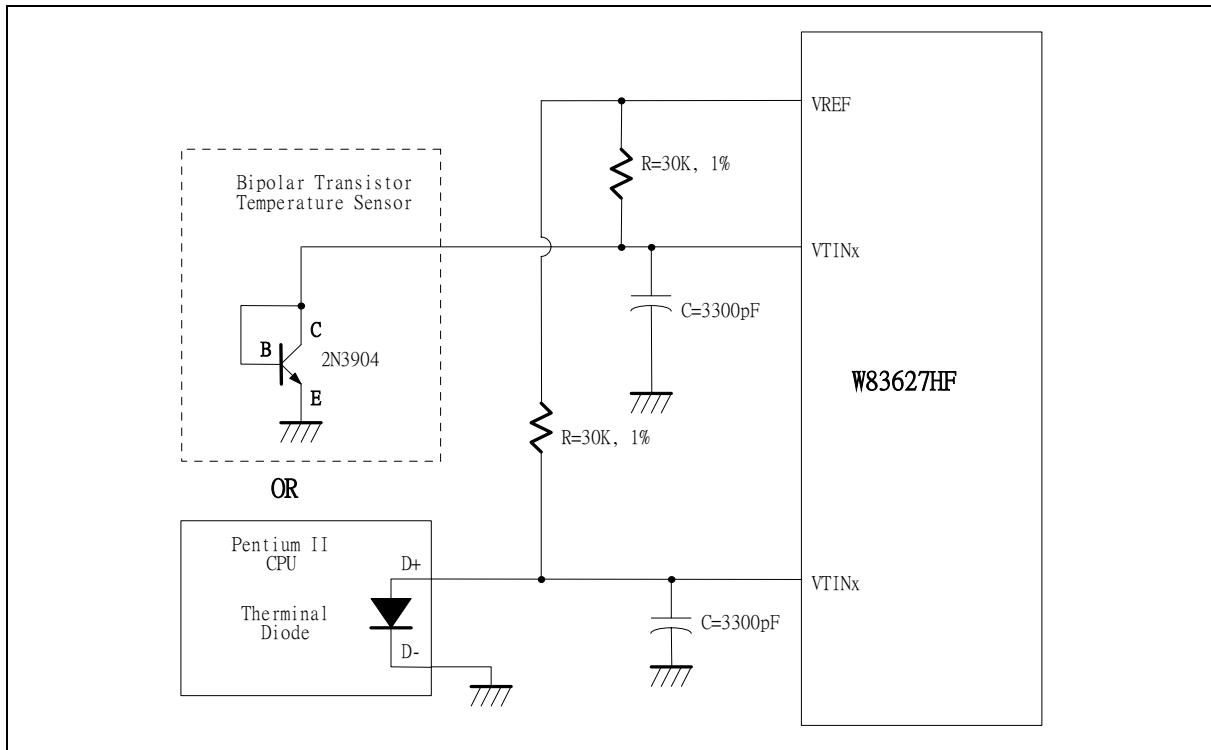

Figure. 8.3
The W83627HF can alternate the thermistor to Pentium II™ (Deschutes) thermal diode interface or transistor 2N3904 and the circuit connection is shown as Figure 8.3. The pin of Pentium II™ D- is connected to power supply ground (GND) and the pin D+ is connected to pin VTINx in the W83627HF. The resistor R=30K ohms should be connected to VREF to supply the diode bias current and the bypass capacitor C=3300pF should be added to filter the high frequency noise. The transistor 2N3904 should be connected to a form with a diode, that is, the Base (B) and Collector (C) in the 2N3904 should be tied together to act as a thermal diode.